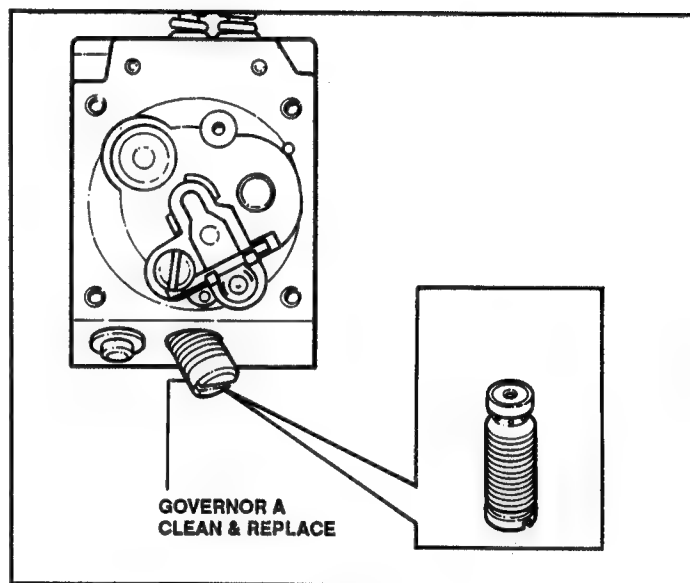

FIGURE 26
3. While the carburetor is off the unit, always inspect the condition of the fuel pump section. Replace any suspect components. The governor A is a spring and check ball system that releases fuel by engine vibration. (Approximately 6500 R.P.M.). The governor cannot be replaced, but can be removed and cleaned. Reseal governor screws with "Seal All" or clear nail polish. See Figure 26.